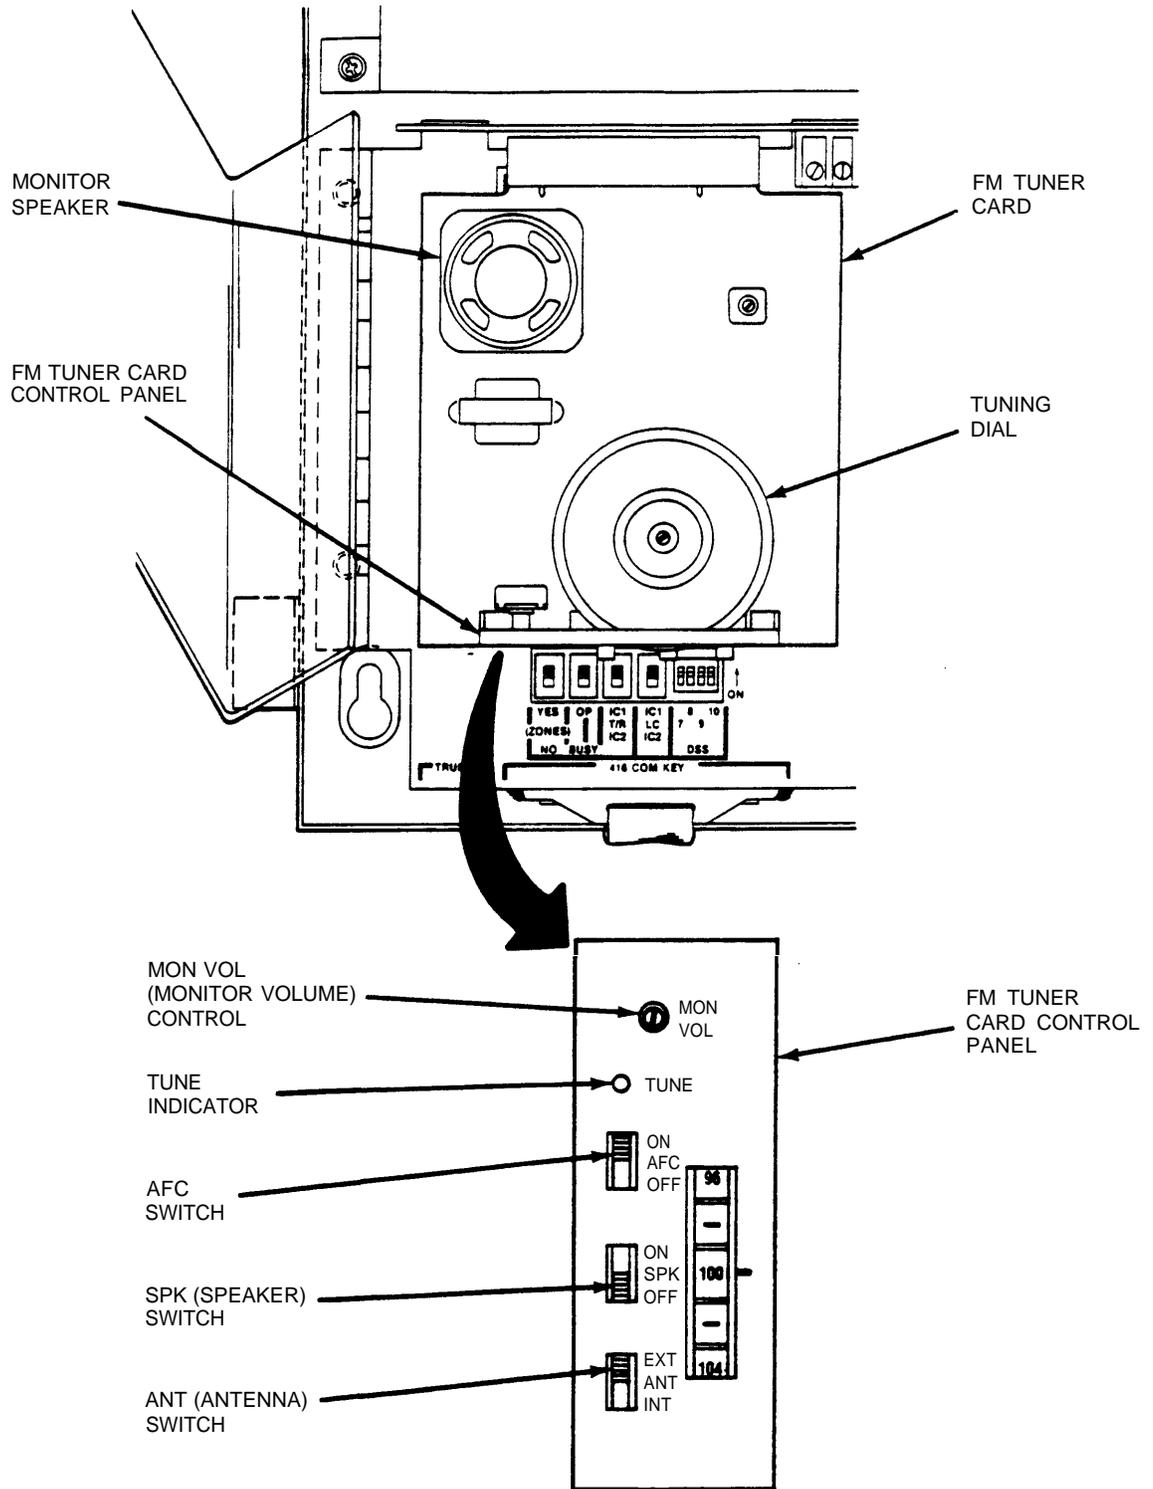

Figure 2-10. FM Tuner Card Controls and Indicator
The optional FM tuner card incorporates automatic frequency control (AFC), a built-in speaker to aid in tuning in a station, and a visual tuning indicator. Refer to Figure 2-10 for control and indicator locations and Table 2-D for the function and use of each control.
Note: Refer to Figure 2-10 for steps 2 thru 9.
1. Adjust Music-On-Hold volume with the tuner MON VOL control (Figure 2-10). Adjust with a small screwdriver clockwise to increase volume and counterclockwise to decrease volume.